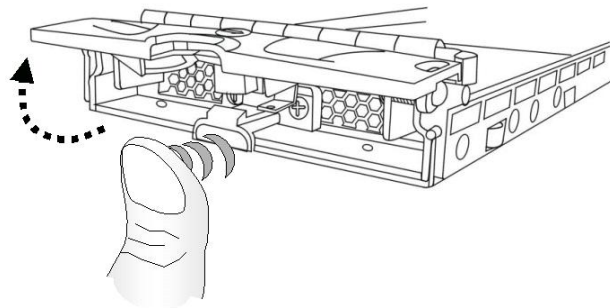

Figure 2-4: Opening the Front Flap
**Step 2.** *Open the front flap* (see *Figure 2-4*) by pushing the release button on the drive tray. The front flap will open in an upward direction.